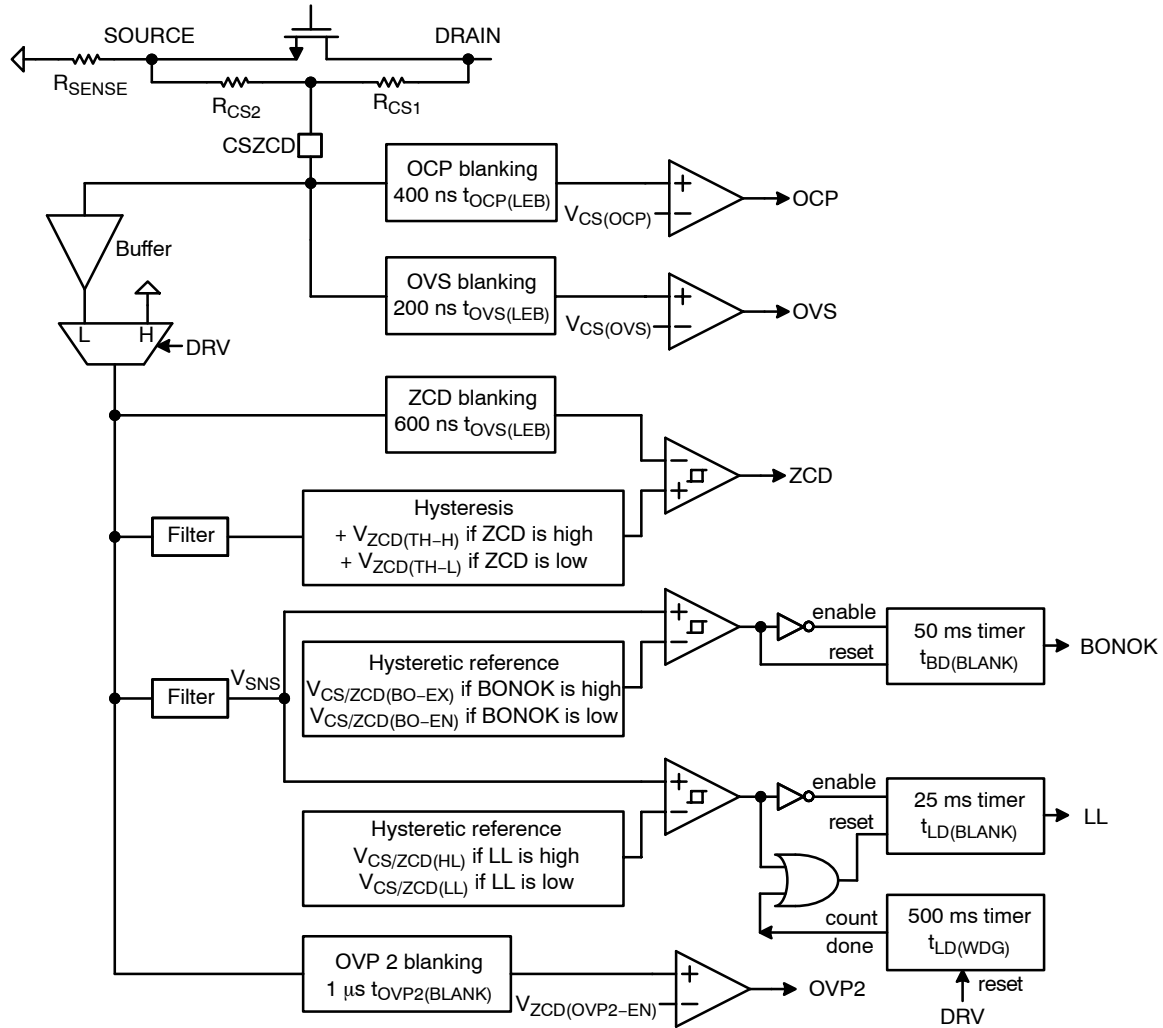

Figure 7. CS/ZCD Internal Circuit Block
As illustrated in Figure 7, the CS/ZCD pin provides the input signal for the following functions:
low-line (LL) detection is set longer than a half-line cycle but not that long to quickly detects an abrupt line transient from high to low. When the line changes from low to high and V_{SNS} is over $V_{CS/ZCD(HL)}$, high line mode is immediately entered. When high-line is detected (that is, when signal “LL” of Figure 7 is low), the loop gain, $t_{ON} / (V_{CTRL} - V_{CTRL(MIN)}) \mu s/V$, is divided by about 2.5 to ensure a 2-level feedforward.
As shown in Figure 7, when V_{SNS} is lower than the brown-out enter voltage ($V_{CS/ZCD(BO-EN)}$) for BO blanking time (50 ms $t_{BO(BLANK)}$), BONOK signal is high and the drive is not immediately disabled. Instead, a 30 μA current source ($I_{VCTRL(BO)}$) gradually reduces V_{CTRL} . As a result, the circuit keeps generating DRV pulses until the STATICOV trips (that is when V_{CTRL} reaches the minimum clamp level, 0.5 V $V_{CTRL(MIN)}$ as shown in Figure 6). This method relieves the risk of input voltage bouncing the fault line detection caused by EMI filter oscillation from an abrupt DRV stop.